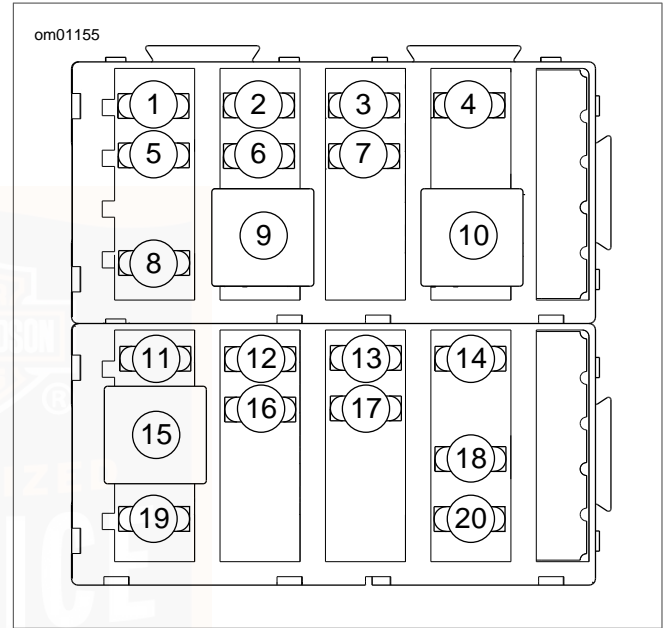

Figure 76. Fuses: Touring Models
4. See Figure 76 and refer to Table 37. Remove fuse and inspect the element.